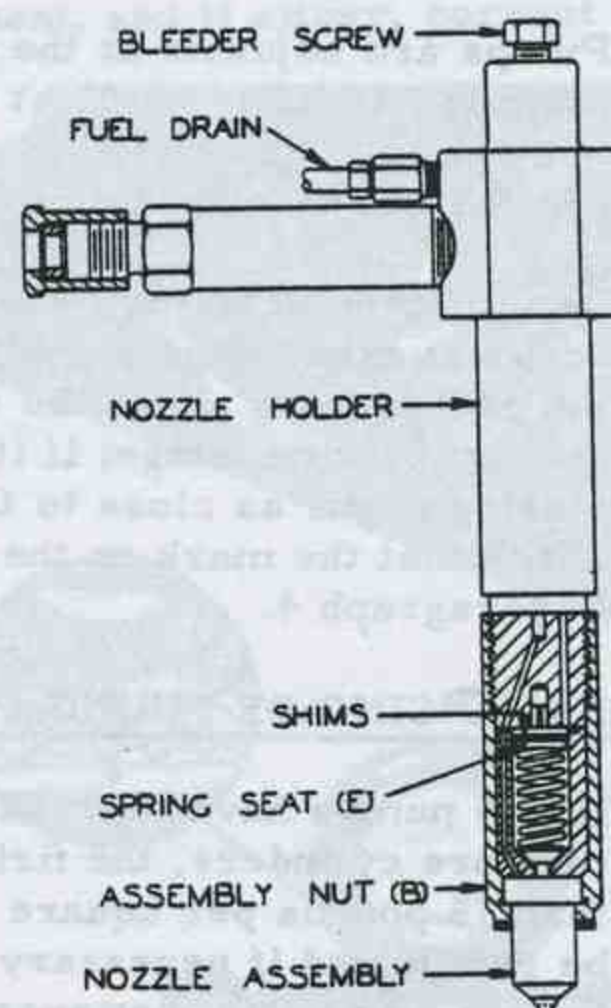

FIG. N-4
11. NOZZLE HOLDER AND SPRAY TIP (See Fig. N-4)